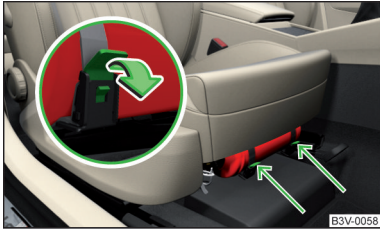

Fig. 228
- > To **remove** the fire extinguisher, release the safety catches on the two belts in the direction of arrow » Fig. 228 and remove the fire extinguisher.